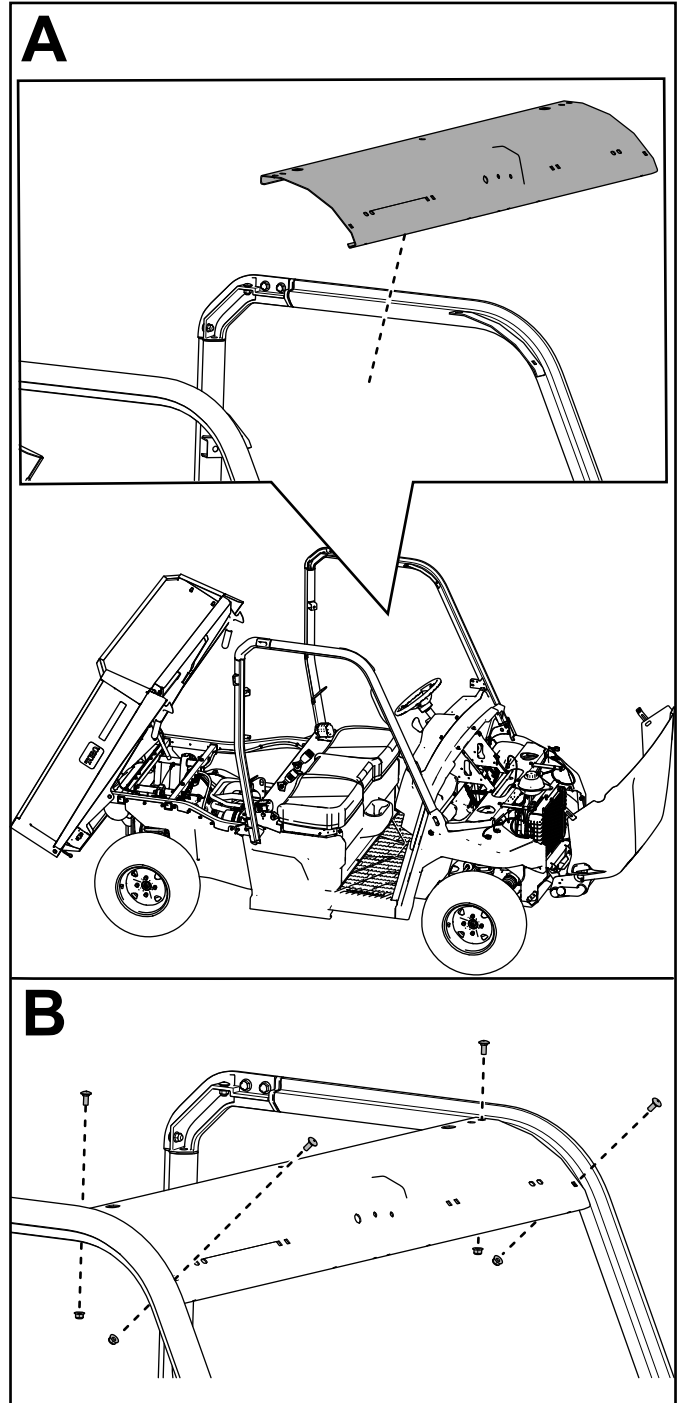

Figure 16
11. Secure the front crosslink to the front roll bar assemblies using 4 carriage bolts (5/16 x 3/4 inch) and 4 locknuts (5/16 inch) as shown in Figure 16.